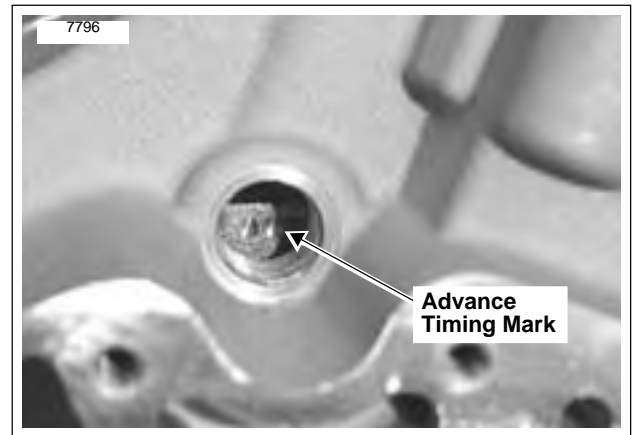

Figure 7-21. Dynamic Ignition Timing
6. See Figure 7-21. Timing light will flash each time an ignition system spark occurs. Aim timing light into timing inspection hole. The advance timing mark (two dots) should be centered in timing inspection hole. If this is the case, ignition timing is properly adjusted. Go to Step 11. If timing mark is not centered or is not visible in the timing inspection hole, see to Steps 7-12.
9. With timing light aimed into inspection hole, rotate module plate until advance timing mark is centered in timing inspection hole (as shown in Figure 7-21).